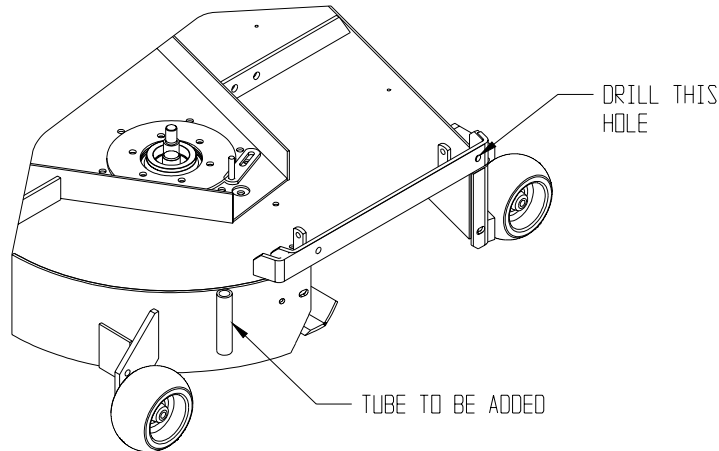

FIGURE 8
20. 72" units below serial number 260,000 will require the deck to be modified by adding the accessory mounting tube. Exmark kit 103-0583 contains the parts and templates required. Follow the instructions in this kit. These decks will also require drilling the hole at the front upper corner of the discharge opening to ½ inch diameter (see figure 8). Touch up with red paint Exmark P/N 850337.